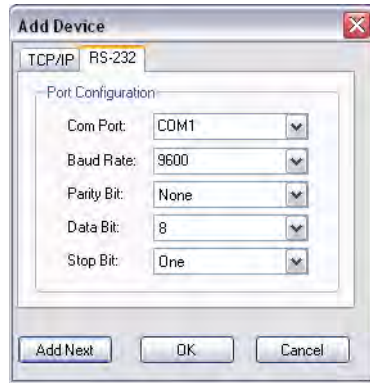

Figure 30. Add Device Screen
2. If you have not previously updated firmware for the FOXBOX unit, on the Add Device screen (see figure 30), select the **RS-232** tab.